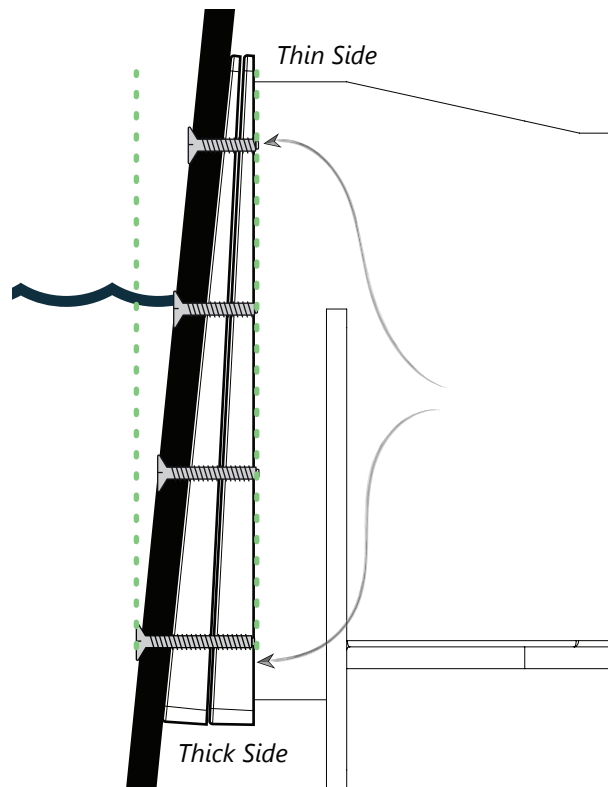

FIGURE 3 - SCREW LENGTHS
7. Proceed to the next set of holes using the same procedure to determine the correct screw length until all screws are installed. (FIGURE 3)